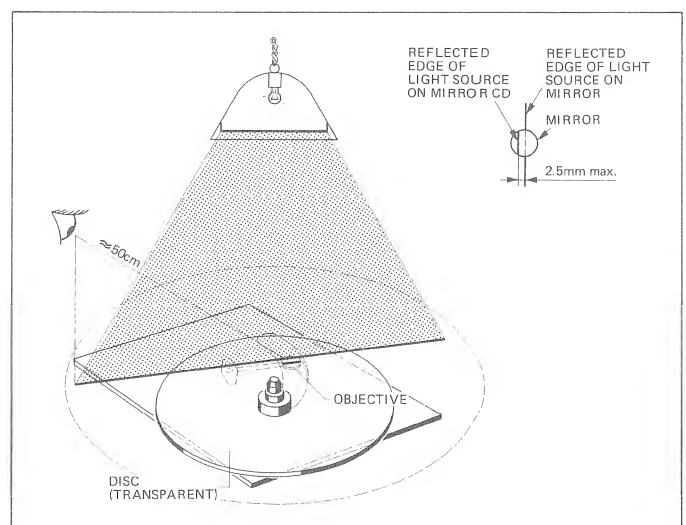

Fig. 4.20
- Put the laser pickup arm into the center position and rotate the player mechanism in such a way that the arm is parallel to the light source (see Fig. 4.20).
- When viewing the two reflections of the light source in the mirror CD and in the mirror on the pickup (as illustrated in Fig. 4.20), the lateral offset should not exceed 2.5 mm.